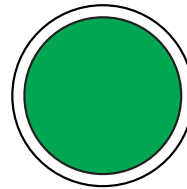

Figure 47. Circuit Breaker ON Button (ON/GREEN)
- Press the **Circuit Breaker ON button** (Figure 47). The button LED will turn **ON (green)** and power will be supplied to the output terminals and receptacles.
3. The main circuit breaker will automatically turn **ON** after the engine starts. Observe that the LED on the **Circuit Breaker ON button** has turned **ON (green)**. See Figure 47.